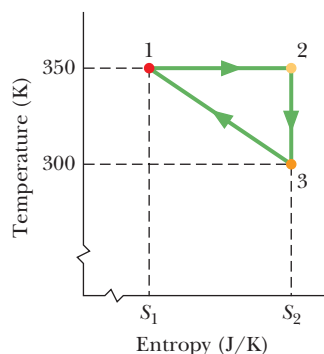

Fig. 20-35 Problem 62.
**62** Suppose 2.00 mol of a diatomic gas is taken reversibly around the cycle shown in the  $T$ - $S$  diagram of Fig. 20-35, where  $S_1 = 6.00$  J/K and  $S_2 = 8.00$  J/K. The molecules do not rotate or oscillate. What is the energy transferred as heat  $Q$  for (a) path 1  $\rightarrow$  2, (b) path 2  $\rightarrow$  3, and (c) the full cycle? (d) What is the work  $W$  for the isothermal process? The volume  $V_1$  in state 1 is 0.200 m3. What is the volume in (e) state 2 and (f) state 3?